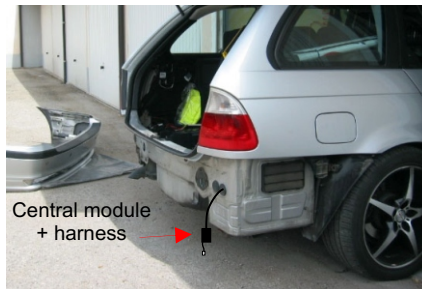

Fig. 2
b) Through the individuated passages route the connections cable inside the trunk leaving the ECU outside. (Fig. 2)